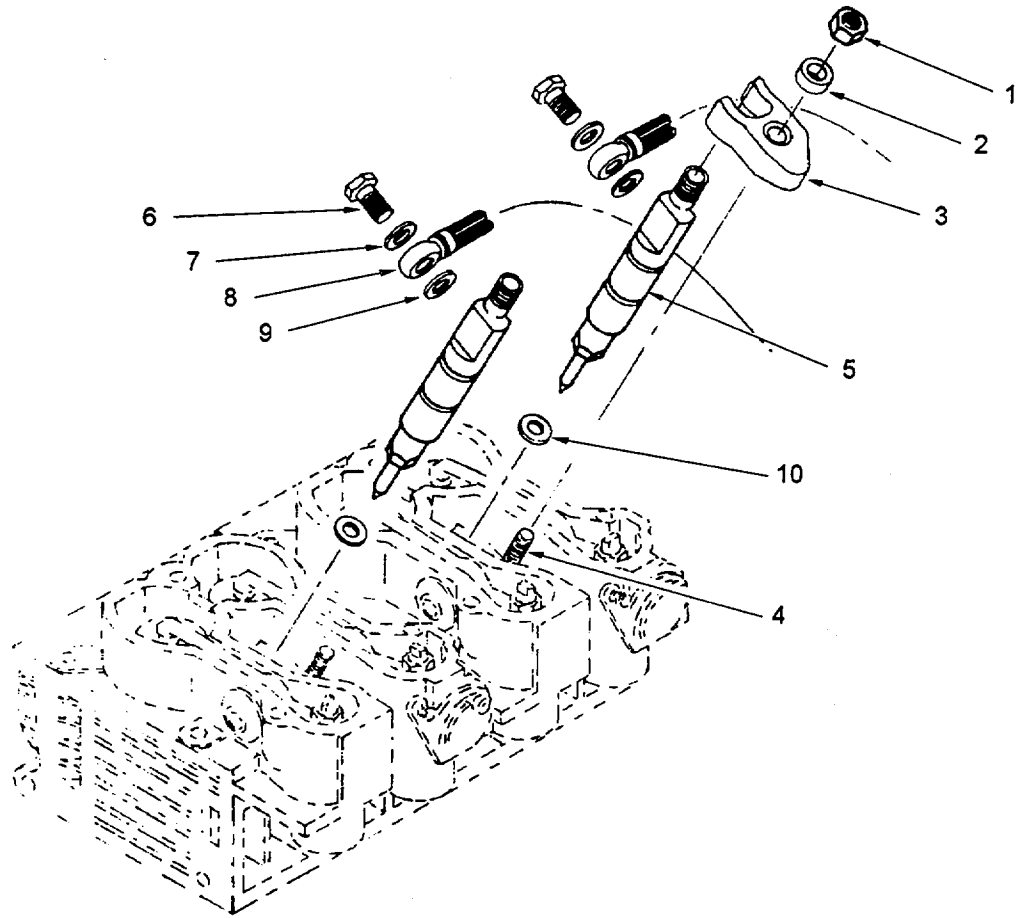

Figure 6-9. Fuel Injector Removal
6.3.10 Remove Fuel Injectors. (Refer to figure 6-9.)